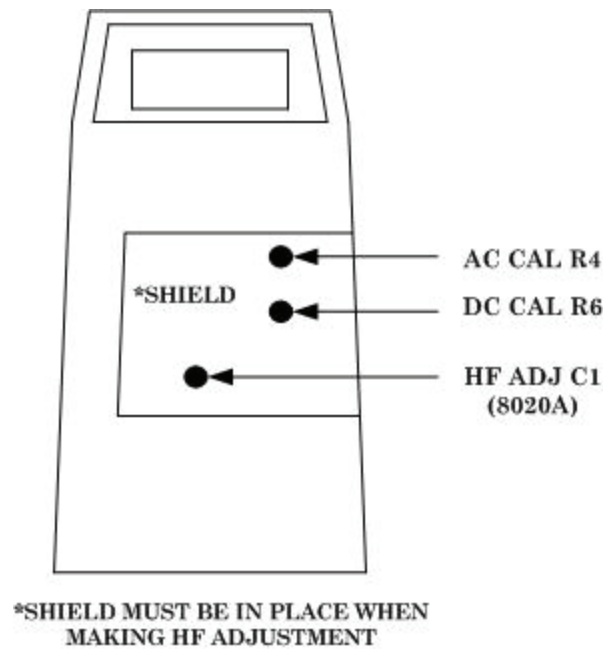

Figure 1. Adjustment locations.
b. Adjustments. Set TI range to 200 mV and calibrator for a 190 mV dc output. Adjust DC CAL R6 (fig. 1) for a TI indication of 190.0 (R).
(1) Set TI range to **200 mV** and calibrator for a 190 mV, 45 Hz output. Adjust AC CAL R4 (fig. 1) for a TI indication of 190.0(R).
(2) Set TI range to **2** and calibrator for a 1.9 V, 2 kHz output. Adjust HF ADJ C1 (8020A) (fig. 1) for a TI indication of 1.900 (R).